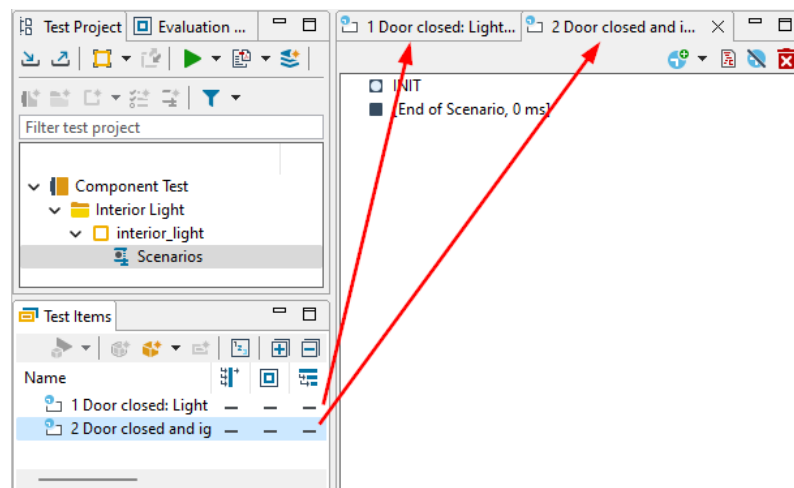

Figure 5.82: The names of the test cases are displayed in tabs of the view Work Task
- The new name will be displayed in the center of the SCE perspective (see figure 5.82).